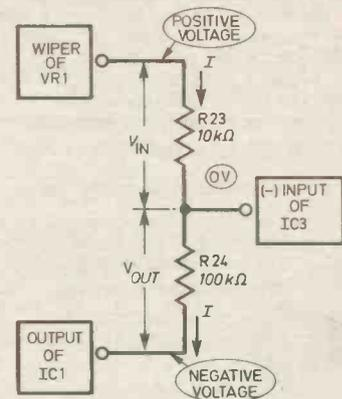

Fig. 12.2. The resistors of the inverting amplifier re-drawn as a potential divider. The current flowing to the (-) input can be ignored as it is very small.
We can think of  $R_{23}$  and  $R_{24}$  as a potential divider (Fig. 12.2). For any given value of  $V_{IN}$ , the amplifier adjusts  $V_{OUT}$  until the voltage at the inverting input (-) is exactly 0V. In effect, if  $V_{IN}$  is a positive voltage, a current flows from the input of  $VR_1$ , through  $R_{23}$ ,  $R_{24}$ , and into the output of  $IC_1$ . If this current is  $I$ , and knowing that the p.d.s. are as shown in Fig. 12.2, we can calculate that:
- 12.4. If a circuit is set up as in Fig. 12.2, but with three inputs, and the input voltages are 1.2V, 0.4V and -1.1V, what is the output voltage?